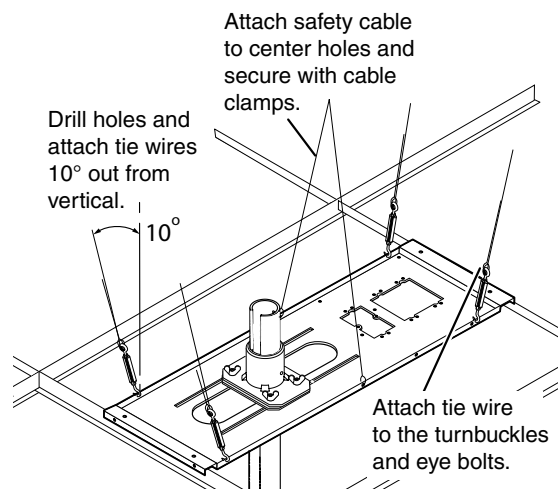

Figure 6 — Attach tie wire and safety cable
- e. **Mark and drill holes in the structural ceiling** at 10 degrees out from vertical. Drill a fifth hole centered above the PCM for the safety cable (see figure 6).
- g. **Loop the safety cable** through the anchor or lag eye bolt, attach it to the plate center holes (see figure 6) and secure it with the cable clamps.